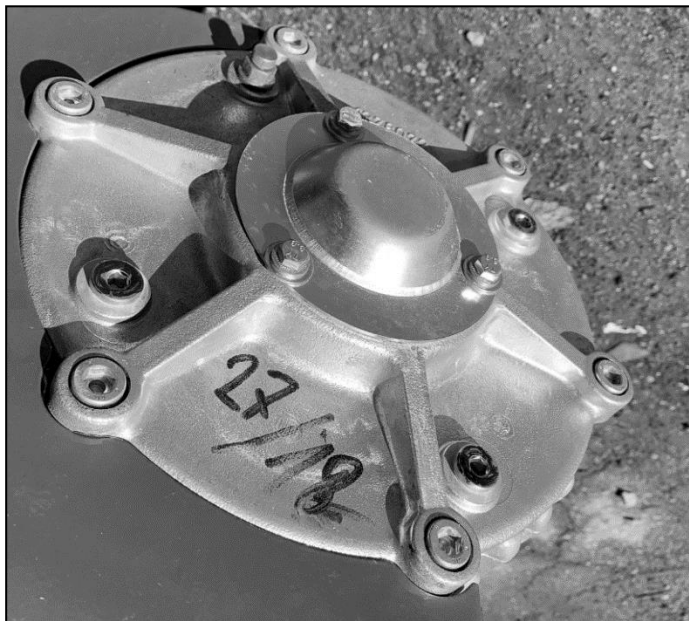

Figure 9: Gearbox configuration.
- ii. Gearbox configuration (tooth configuration is written on housing, Figure 9)